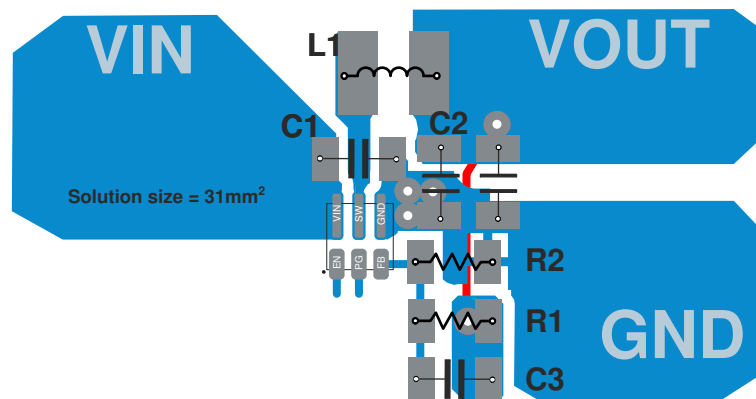

图 8-28. PCB Layout Recommendation
The printed-circuit-board (PCB) layout is an important step to maintain the high performance of the device. See 图 8-28 for the recommended PCB layout.
- Refer to 图 8-28 for an example of component placement, routing and thermal design.